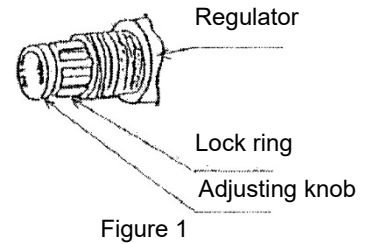

Figure 1
- (1) Check that the supply side of compressed air is closed.
- (2) After making sure that the lock ring of the compact regulator adjusting knob is located at the front side (if it is at the far side, the knob will not turn), turn the adjusting knob to the LOW side (counterclockwise) until it stops. (Figure 1)